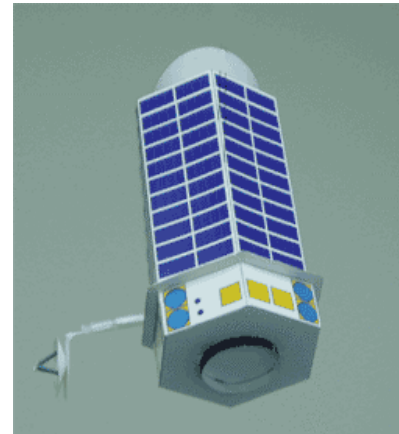

Figure 7.
41. Mount the photometer to the spacecraft. **This takes patience.** First note where position A should be on the spacecraft base, 2 panels over from the boom on one side and 2 panels over from the HGA on the other side. This is the location for the back seam on the photometer and high side of the sunshade. The arrow on the bottom of the photometer base should point to position A on the spacecraft base. If you haven't done the fit check in step 22, do it now from the bottom up into the spacecraft base so you can see the slits. Now insert the base of the photometer into the hexagonal spacecraft base. See Figure 6. Patiently, jiggle it until all 4 tabs come out of the bottom of the base. Apply glue to the outer facing surface of these 4 tabs. Apply glue to the inner surface of part 23 at the 4 tab locations. Slip the 4 tabs of part 23 into the same 4 slits that the tabs from the collar are coming out of, with part 23 on the outside of the photometer collar tabs. Press the tabs against part 23 and make sure they are well glued. Finally add glue to the overlapping end of part 23 to form a ring. See Figure 7.